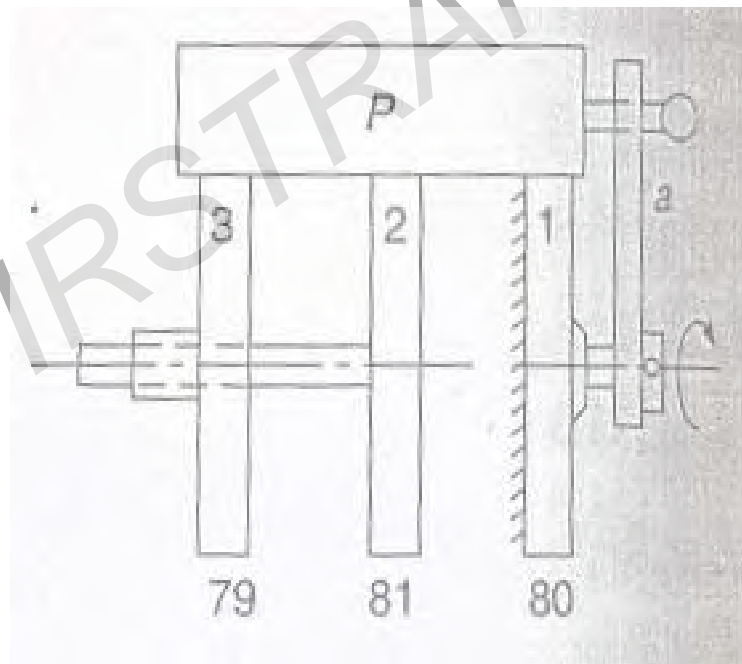

Figure 8
8. Figure 8 shows an epicyclic train known as Ferguson's paradox. The gears have number of teeth as indicated. Gear 1 is fixed to the frame and is stationary. The arm a and the gears 2 and 3 are free to rotate on the shafts. The pitch circle diameters of all the gears are the same so that the planet gear P meshes with them all. Find the number of revolutions of gears 2 and 3 for one revolution of arm a. [16]